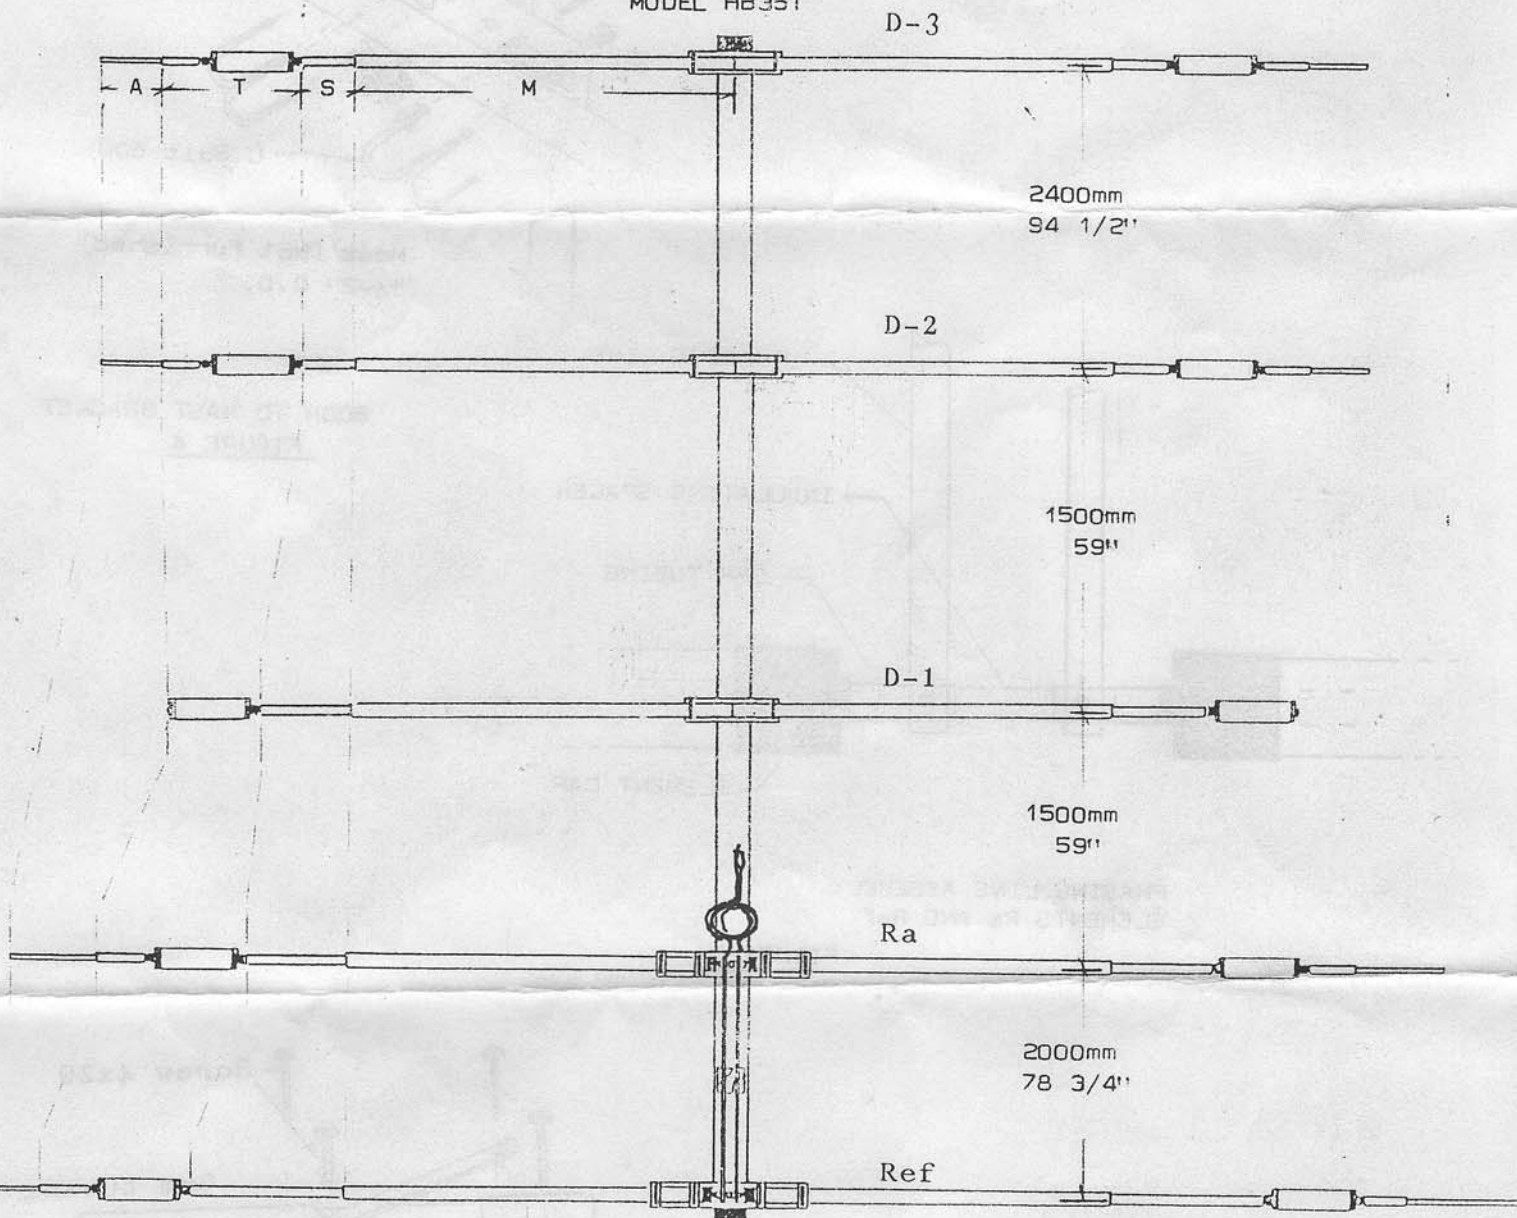

Figure 2
3.3 Refer to Figure 2. Using a felt tipped pen, place marks on the boom where the clamps holding the various elements are to be attached. Measurements are made beginning 30mm from the inside edge of one boom end cap.
4.1 Identify parts for five elements. All are identified as D3, D2, D1, Ra or Ref. Refer to Figure 2 and Table 1 for element length.